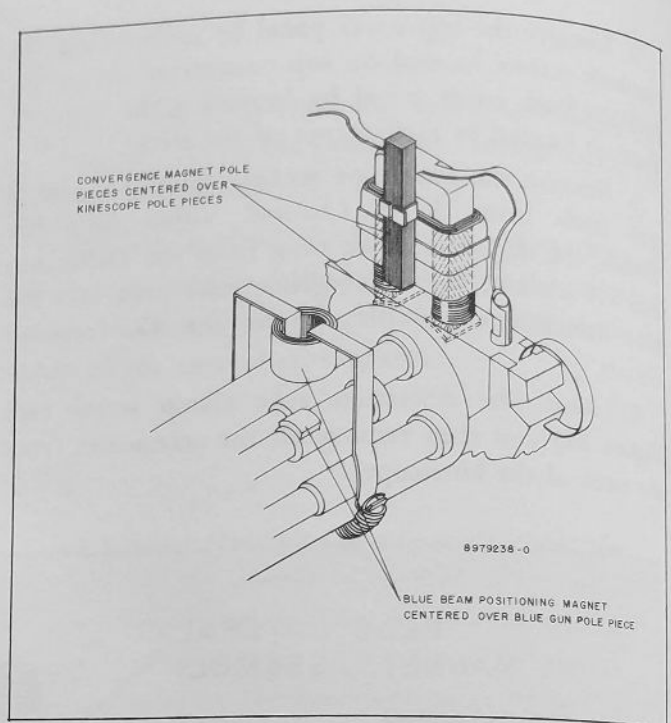

Figure 16. Blue Lateral Magnet and Convergence Magnet Locations
back of the deflection yoke. Center the convergence pole pieces over the pole pieces in the front end of the kinescope guns. The opening between the two magnets should be over the opening between the pole pieces. (Refer to Figure 16.) The distance from the convergence holder to the center of the blue gun pole piece should be approximately $1\frac{3}{8}$ " , with the blue coil positioned over the blue gun. The coils may be identified by the color of the wires fastened to each. Viewed from the socket end of the kinescope, the green coil should be on the left and the red coil on the right.
5. Place the blue lateral magnet assembly on the kinescope neck so that the magnet's pole is centered over the blue gun pole piece. (See Figure 16.)